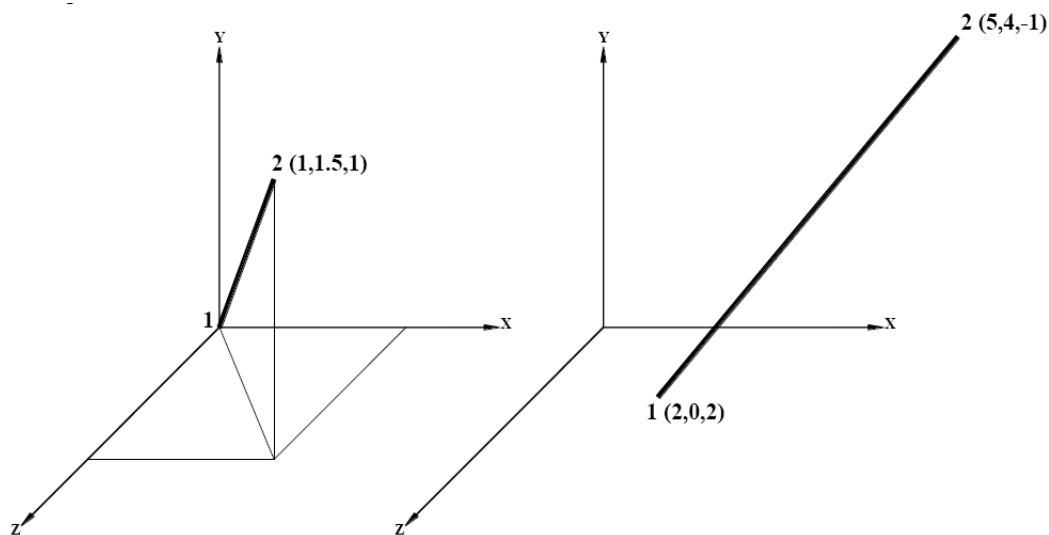

Figure P2.10
10. For the space truss elements shown in **Figure P2.10**, the global displacements at node 2 have been determined to be $u_2 = 5$ mm, $v_2 = 10$ mm and $w_2 = 15$ mm. Determine the displacement along the local axis at node 2 of the elements. The coordinates shown in Figures are in meters.